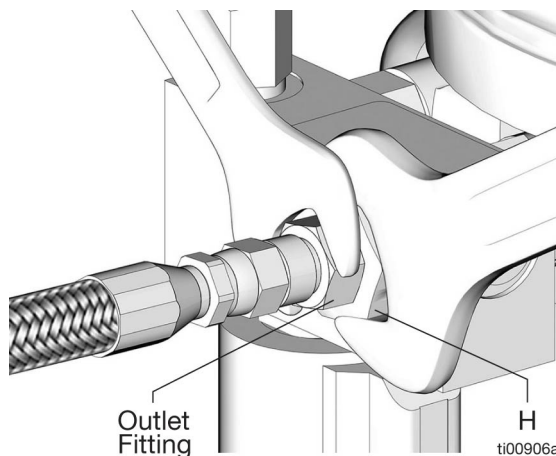

FIG. 9
1. Disconnect the pump power supply by removing the wire harness pump connection (N).
2. Disconnect the wire harness vent valve solenoid connection (W). The vent valve automatically relieves system pressure.
3. Relieve any residual pressure in the system using two wrenches working in opposite directions on the fluid outlet bolt (H) and the outlet fitting to slowly loosen the fitting only until the fitting is loose and no more lubricant or air is leaking from the fitting (FIG. 9).